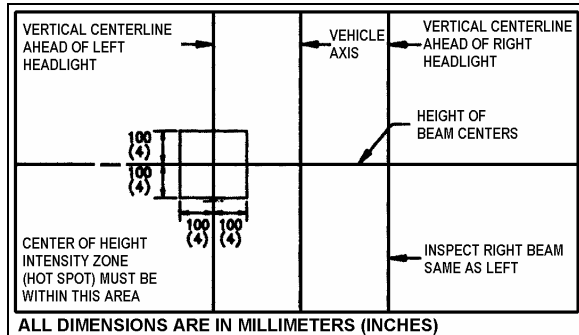

FIGURE 34: AIM INSPECTION LIMITS FOR UPPER-BEAM HEADLIGHTS
- The inspection limits for high-beam headlights shall be with the center of the high-intensity zone from 10 cm (4 in) up to 10 cm (4 in) down; and, from 10 cm (4 in) left to 10 cm (4 in) right on a screen at 7.6 m (25 ft) (Fig.34).